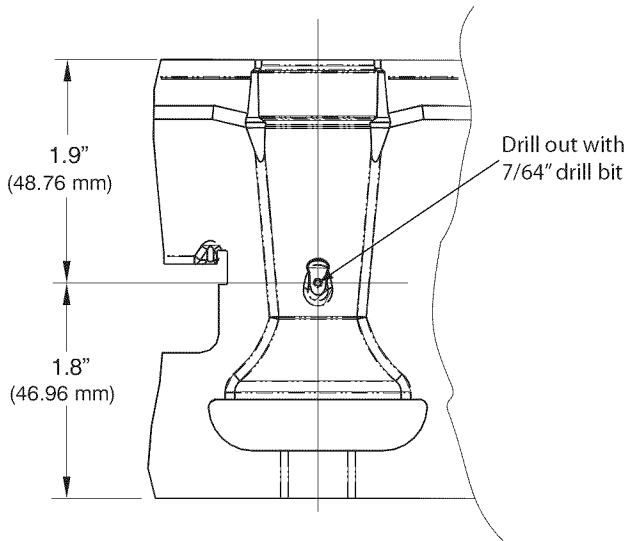

Fig. 7 - Mixer Screw Location
3. If you cannot locate the dimple, refer to Fig. 7 for location of the mixer screw.